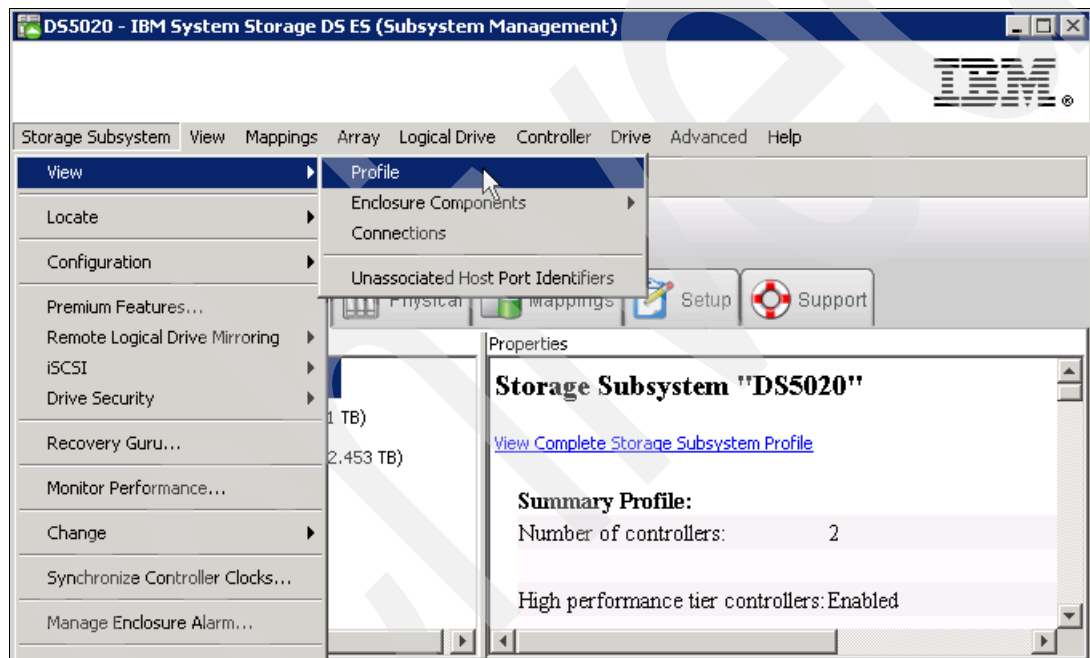

Figure 4-96 Viewing the storage subsystem profile
1. To obtain the profile, open the Subsystem Management window and select **Storage Subsystem** → **View** → **Profile**, as shown in Figure 4-96.